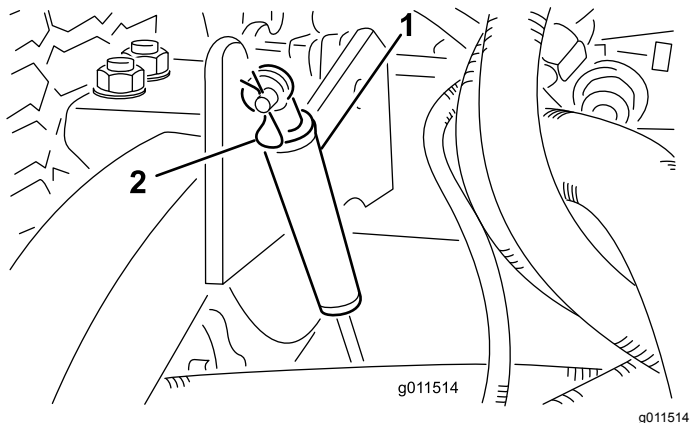

Figure 5
9. Remove the hairpin cotter securing the dampers to the cutting-unit lift arms (Figure 5).